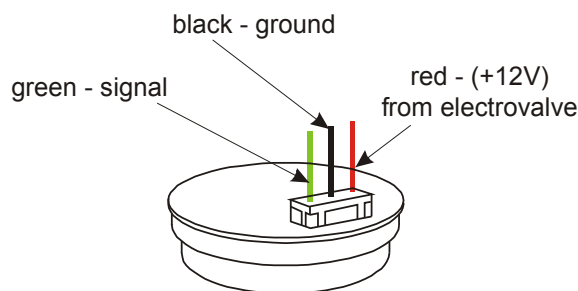

Fig.1. A view of the hallotron sensor
3. Connect the conductors according to Fig. 1 and connect the pin with the sensor.